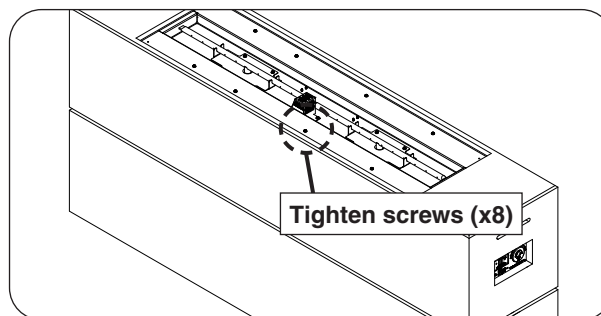

Fig. 28-3 Install burner
2. Use a $\frac{5}{16}$ " nut driver to fasten the burner to the base (see Fig. 28-3).